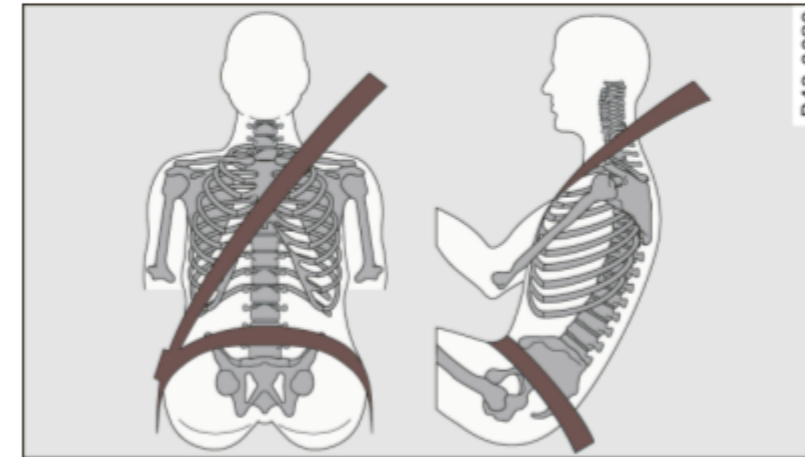

Fig. 94 Head restraint and safety belt position as seen from the side
- The safety belt must lie flat and snug on the occupant's upper body ⇒ fig. 94. Pull on the belt to tighten if necessary.
- The lap belt portion of the safety belt must be positioned as low as possible across pelvis and never over the abdomen. Make sure the belt lies flat and snug ⇒ fig. 94. Pull on the belt to tighten if necessary.